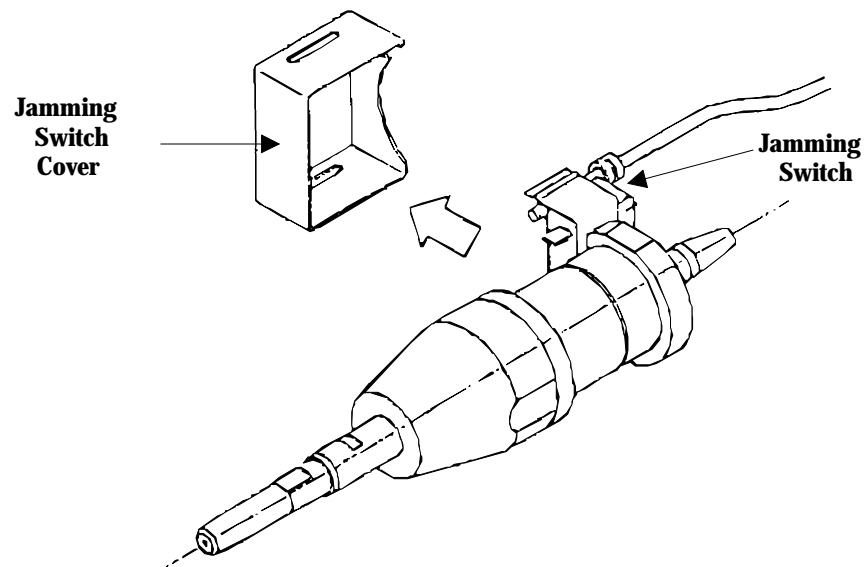

Figure 8A
4. (refer to **figure 8A**) Remove the jamming switch cover.